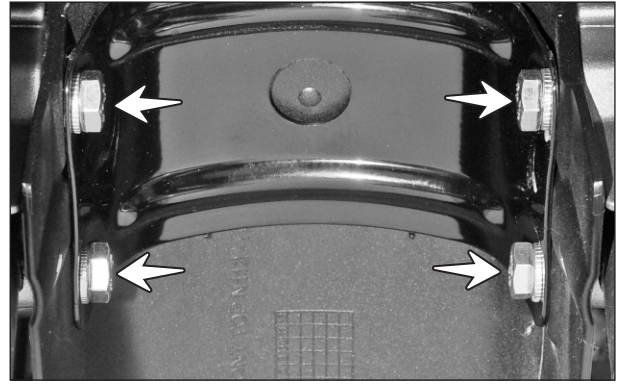

Fig. 6.47
- Remove hexagonal screws (M8x20 - 4 nos.) along with wave spring washer (4 nos.) from the fender front mounting. (Fig. 6.47)